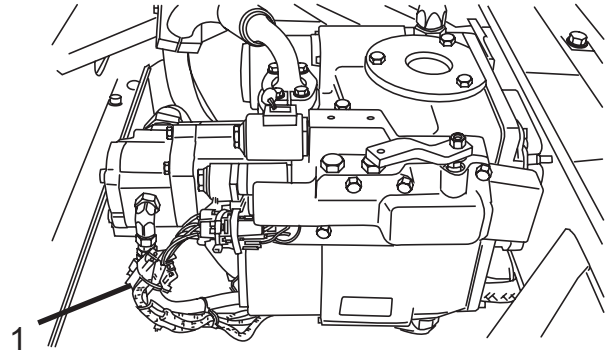

Figure 3
- 10. **For Traditional Controls with RE (Remote Electric Controls) Only:** Locate and disconnect the main electrical connector (Figure 3, Item 1) from the charge/discharge coils. Move the connector away from its mating connector. Proceed to Step 14.